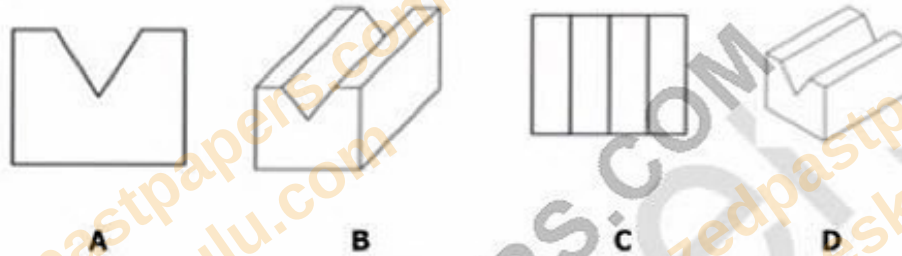

Figure 6
- 20 **Figure 6** shows different drawings of a vee- block. Choose **one** drawing in isometric.